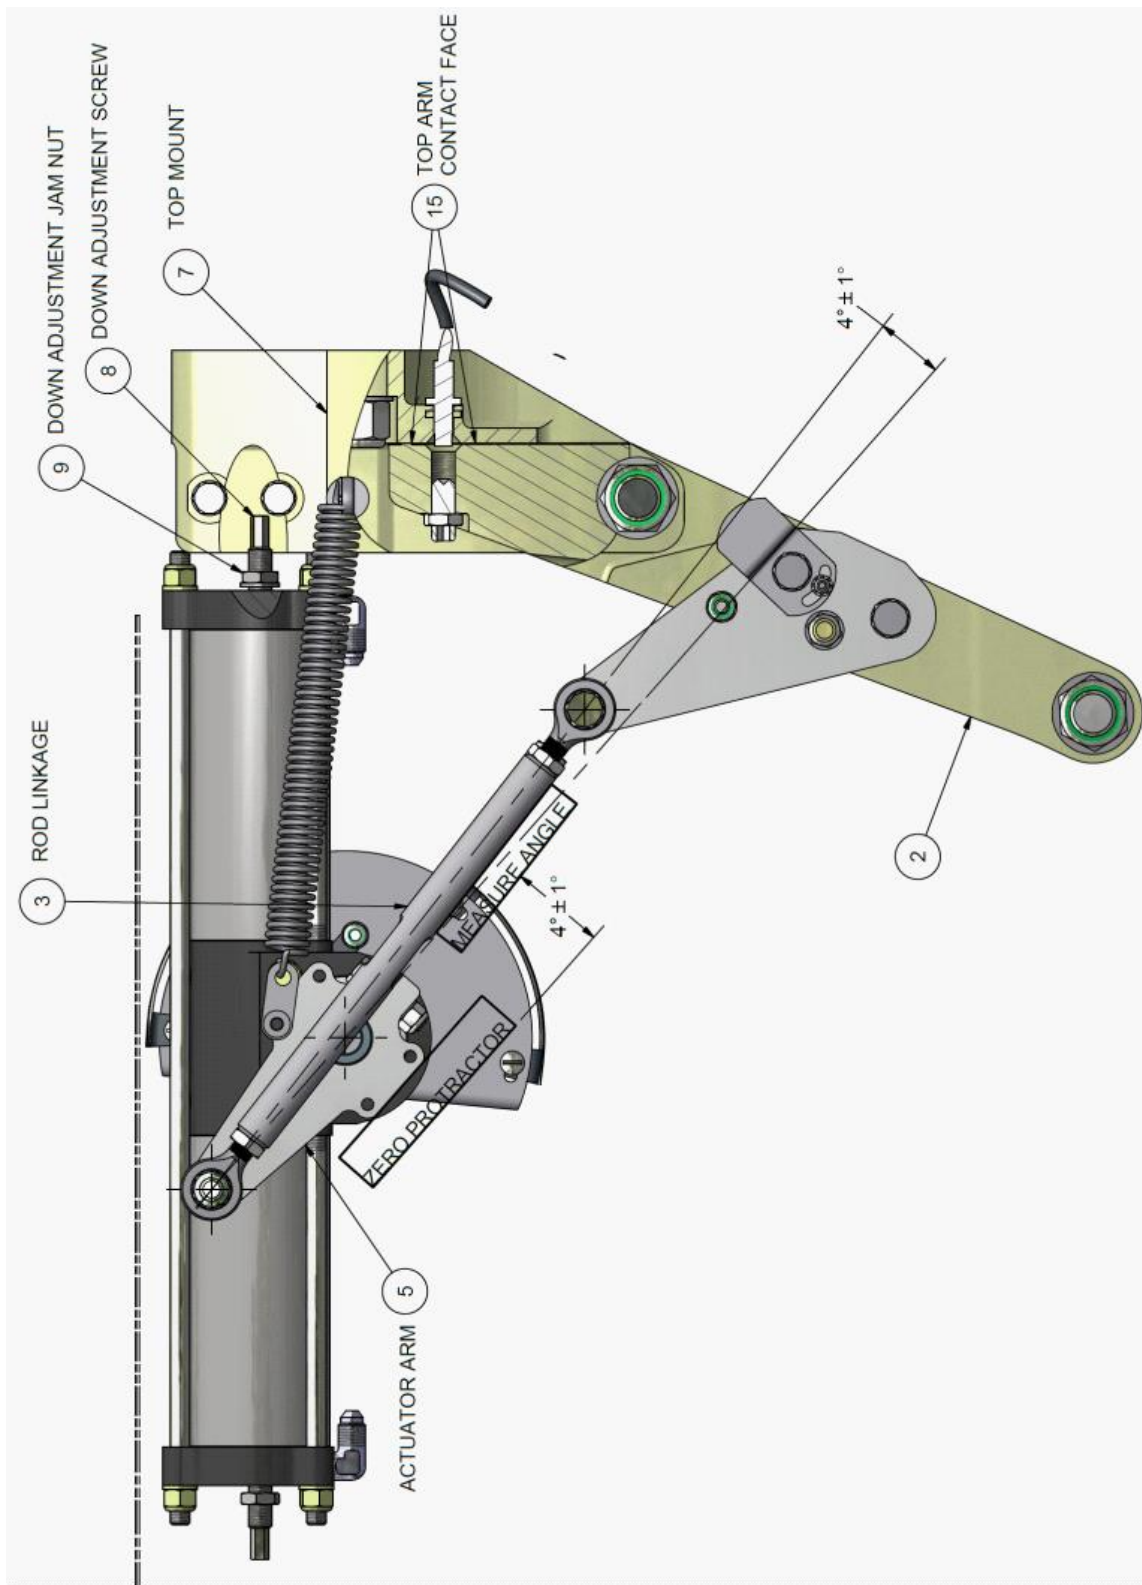

FIGURE 4-4B: MAIN GEAR ADJ. DOWN
23. Zero the protractor. See Figure 4-4B. Then place the protractor on the top or bottom of the rod linkage. The measured angle should be  $4^{\circ} \pm 1^{\circ}$ . Repeat for the other actuator arm and rod linkage by zeroing the protractor on the other actuator arm and measuring the rod linkage angle.
28. Check the operation of the over center down lock. As the actuator rotates causing the contact faces to touch, the actuator arm should continue to rotate and “snap” past Top Dead Center (TDC). Make sure that there is preload on the linkage rods so that contact faces remain touching past TDC. Push and pull on the Top Arm Assembly (Item 2) to ensure it is locked over center. The Top Arm Assembly needs to be contacting the Top Mount (Item 7) when the gear is extended to properly transfer the landing loads. Ensure Top Arm and Top Mount are making contact by sliding a 3-inch wide piece of paper in (See Figure 4-4B and photo on this page), then moving gear to down and locked position. If paper is tight, gear is rigged correctly. If paper is able to slide out, then the Top Arm and Top Mount are not making proper contact and need further adjustment.
2. Loosen the jam nut on the Gear Down Proximity Switch located on the back of the Main Gear Top Mount. Thread the Gear Down Proximity Switch in or out until the face of the sensor is flush with the face of the Main Gear Top Mount. Reference Figure 4-4B. Tighten the jam nut on the proximity switch to 10 +/- 3 inch-pounds.